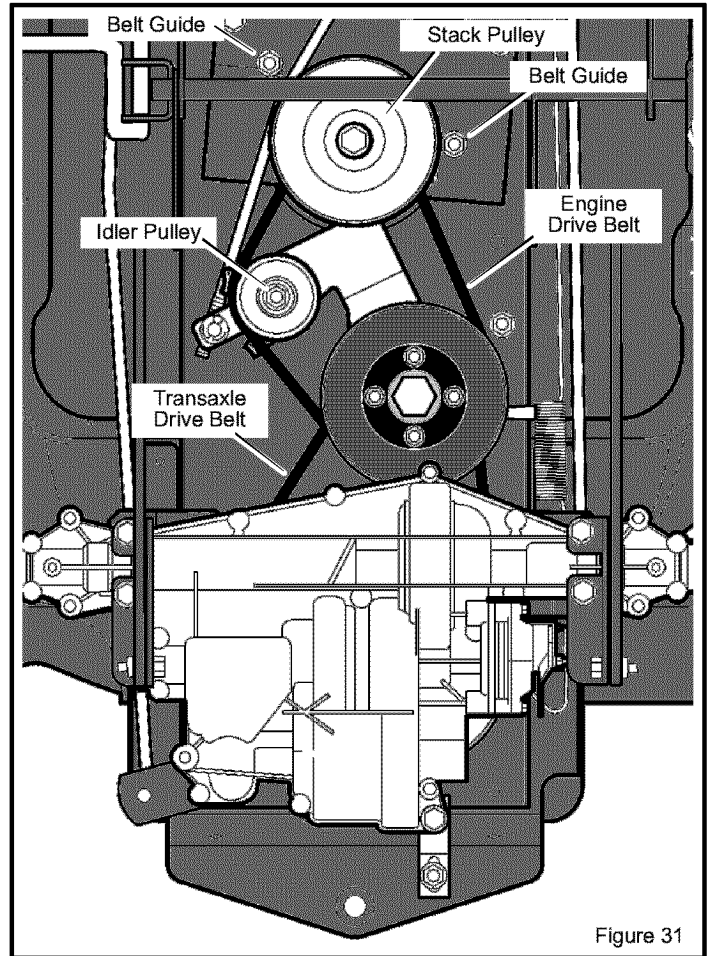

Figure 31
2. Remove the **engine drive belt** from the **idler pulley** (see Figure 31). If necessary, remove the **idler pulley**.
2. Make sure that the **engine drive belt** is installed correctly and is inside of all the **belt guides** (see Figure 31).